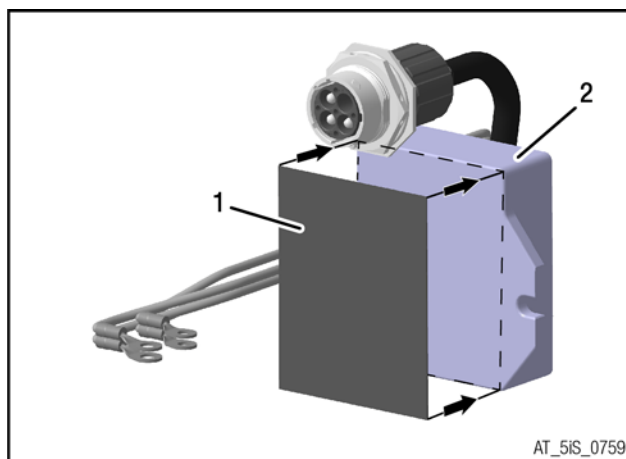
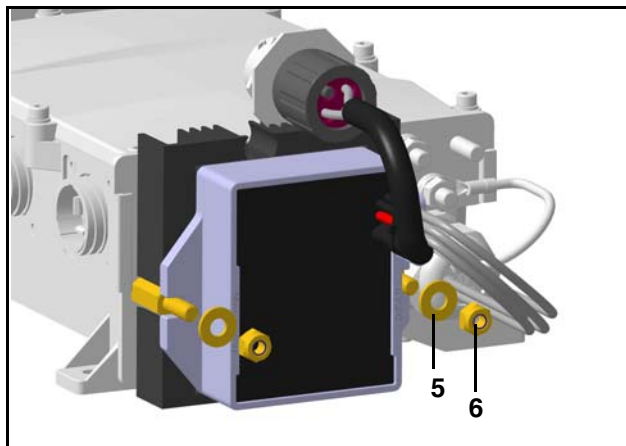

Fig. 4
Fig. 6
See Fig. 6 for an example of a heat sink (1) attached between the regulator and the fuse box mounting plate. For such purpose BRP-Rotax does offer a heat sink set, see section 2.1) Material requirement per engine.
See Fig. 4 up to Fig. 6.
See Fig. 6